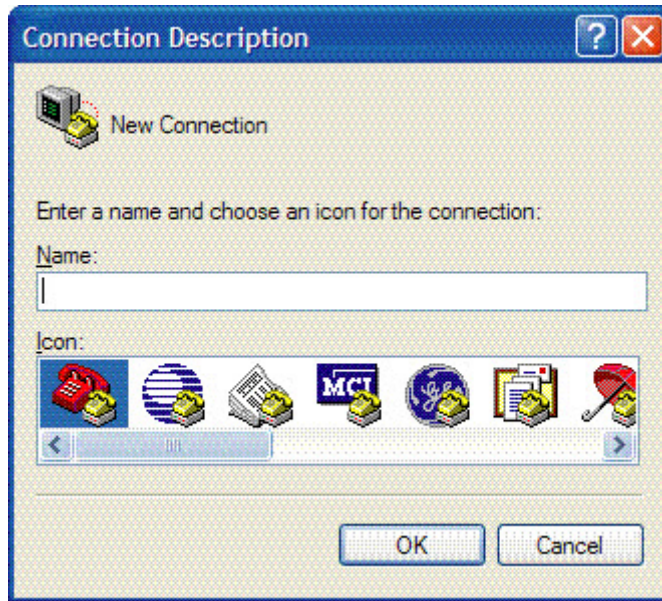

Figure 3-1 Connection Description window
3. Once HyperTerminal is activated, the **Connection Description** window appears, as shown in Figure 3-1 on page 3-2. Type in a **Filename** (where the terminal session settings will be stored for future recall) and click on any icon. Click **OK**.